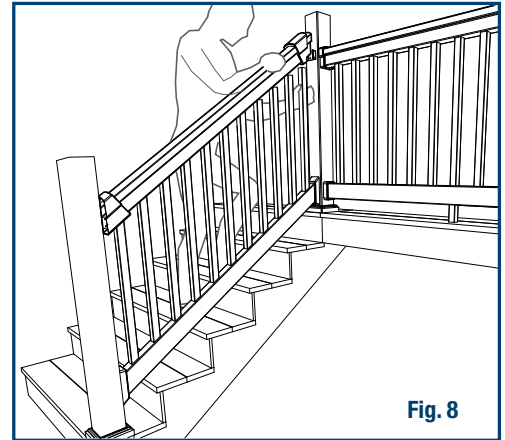

Fig. 8
- 13** Slide the bracket covers over both ends of the top rail. Align the top rail over the Balusters and insert the Balusters one at a time until the top rail is fully installed. (Fig. 8)